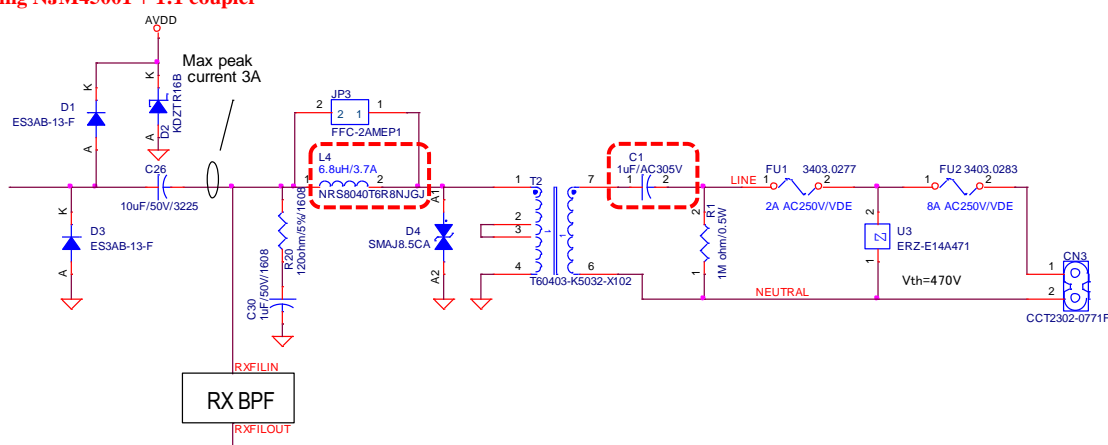
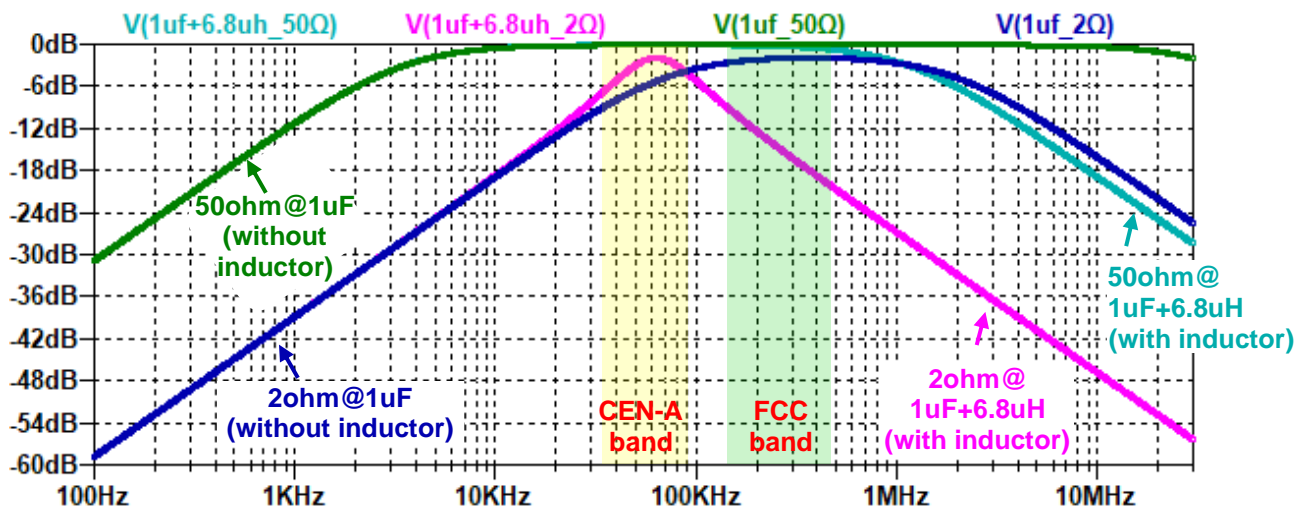

Figure 3-11 Example of connection for low impedance load measures in CENELEC-A band
Figure 3-12 Example of frequency characteristics for low impedance load measures in CENELEC-A band
- Figure 3-11 shows an example of connection for low impedance load measures the CENELEC-A band, and Figure 3-12 shows the example of frequency characteristics.